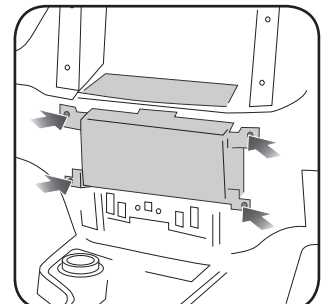

Fig. 1.8
8. Remove four (4) 7mm holding the radio. Unplug and remove the OEM radio. (Fig. 1.8)